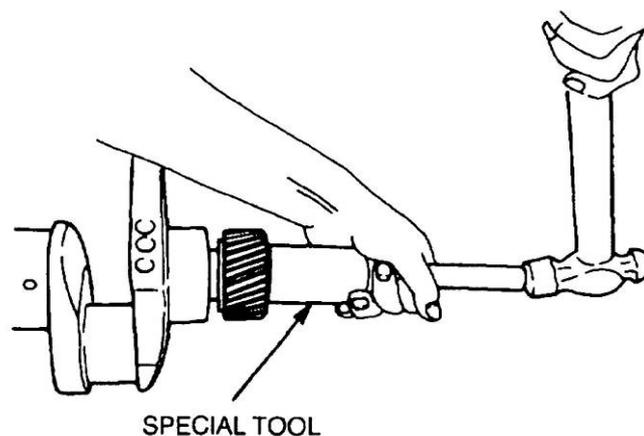

Figure 40 Installing the Drive Gear
- b. Using special tool 9-8522-0033-0 and a hammer, install the drive gear onto the crankshaft (Figure 40). Install the main bearing shells and the main bearing caps into the engine block.